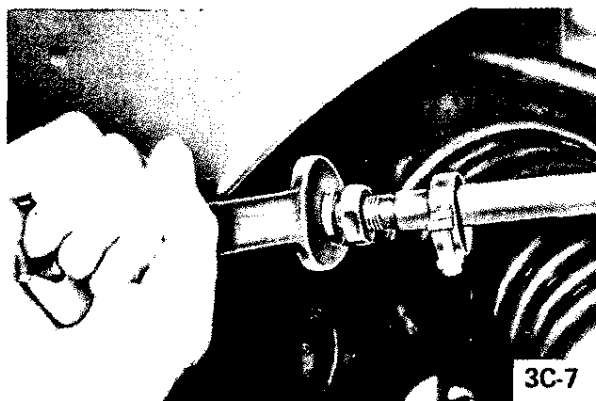

Figure 3C-7 Adjusting Toe-In Opel 1900 Manta
2. Remove hose clamp for rubber bellows attachment from respective axial joint and adjust toe-in by turning axial joint. When doing this, observe that the rubber bellows, having a tight seat on the joint, is not twisted. If necessary, lubricate seat of bellows and hold back bellows when turning. See Figure 3C-7.